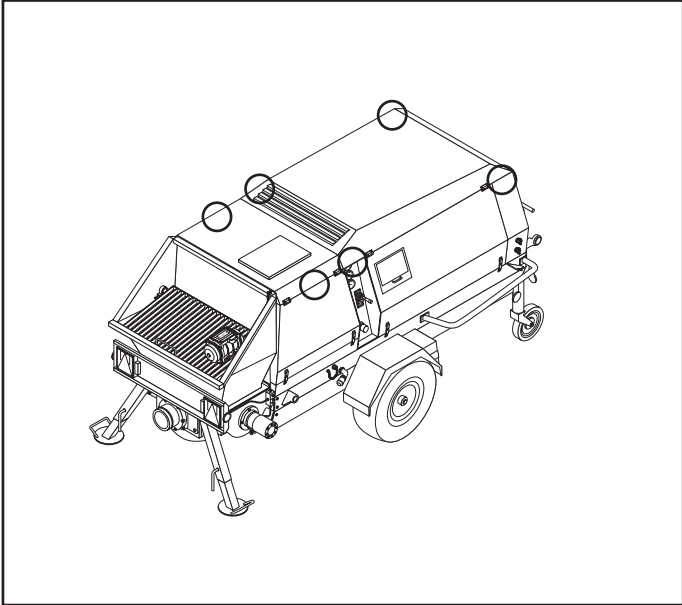

FIG.65
- Take down the fixed casing by removing the screws on the casing mounts and on the brackets that fasten it to the hydraulic oil tank (FIG. 65).